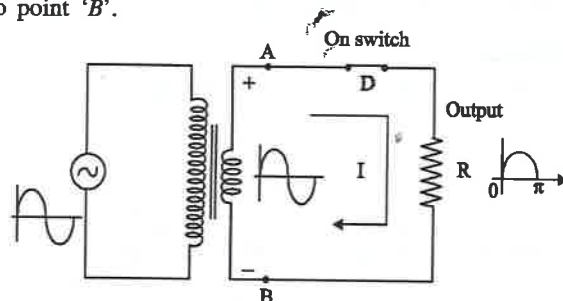

Fig. 3.48
- » During this period, the diode becomes forward biased and it acts as a (ON) closed switch.
- » The entire positive input voltage is applied across the load. The current path is A-D-R-B. It is shown in fig. 3.48.